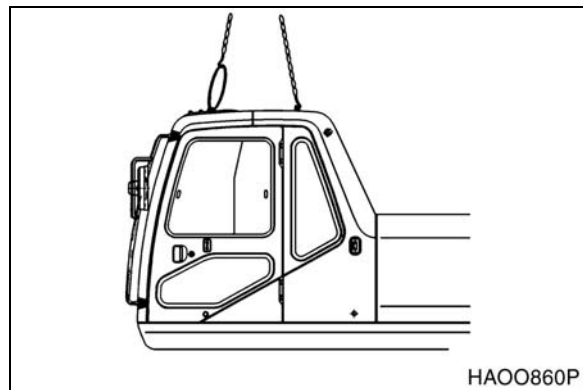

Figure 7
27. Using a suitable lifting device, attach slings to four lift points on top of cab (Figure 7).